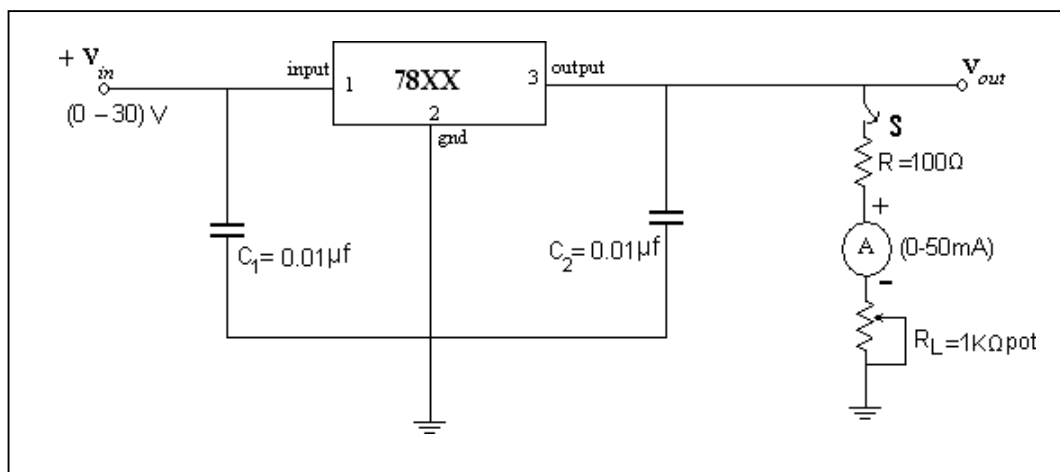

Fig 1 Positive Voltage Regulator Circuit
1. Connect the circuit as shown in Fig 1 by keeping S open for 7805.
1. Connect the circuit as shown in the Fig 1 by keeping S closed for load regulation.